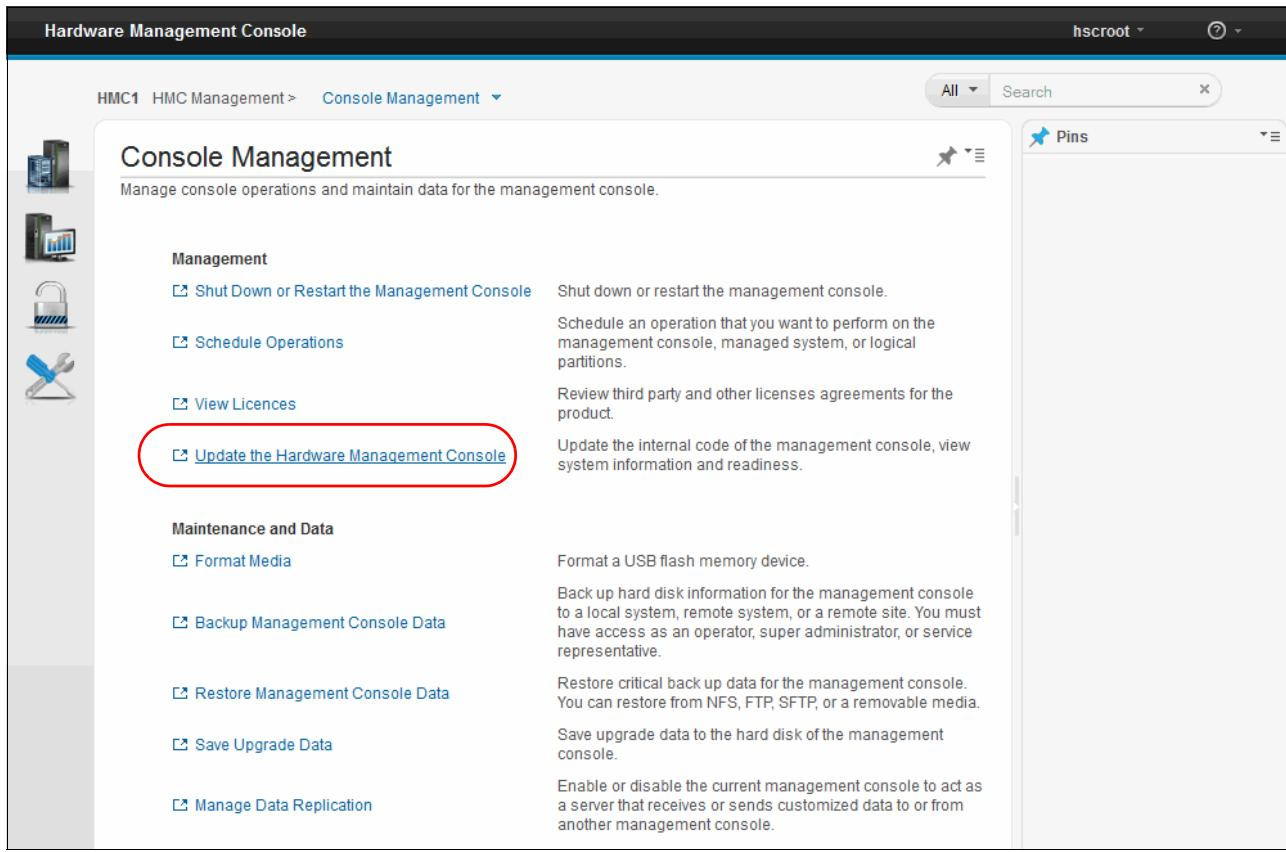

Figure 3-114 Update the HMC
2. In the Console Management panel (Figure 3-114 on page 245), click **Update the Hardware Management Console**.
**Note:** If your HMC was already connected to managed systems, and has an advanced configuration, you must back up your current configuration. This can be done with the *Backup Management Console Data* task, also shown in Figure 3-114 on page 245.